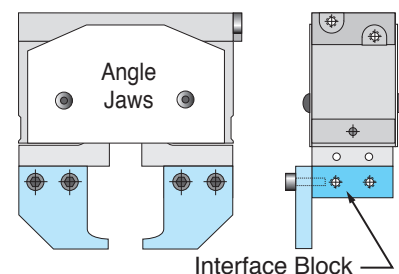

Figure 6.
**(c) Interface blocks** – Can be attached to angle jaws allowing tooling to be mounted on any side of the SPG Gripper. Below in Figure 6, standard interface blocks have been utilized to provide side tapped holes for mounting offset blade type gripping fingers.